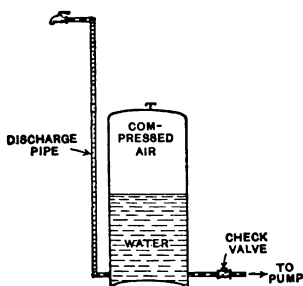

FIG. 17. — Pneumatic tank.
*Pressure tanks.* On the whole, one of the most satisfactory devices is the pressure or pneumatic tank. (See figure 17.)